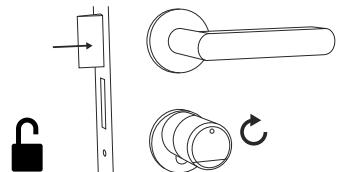

Fig. 2
- ③ When the number combination entered is correct, the cylinder status symbol (⌚) will illuminate and the door can be unlocked (Fig. 2) or locked (Fig. 3).